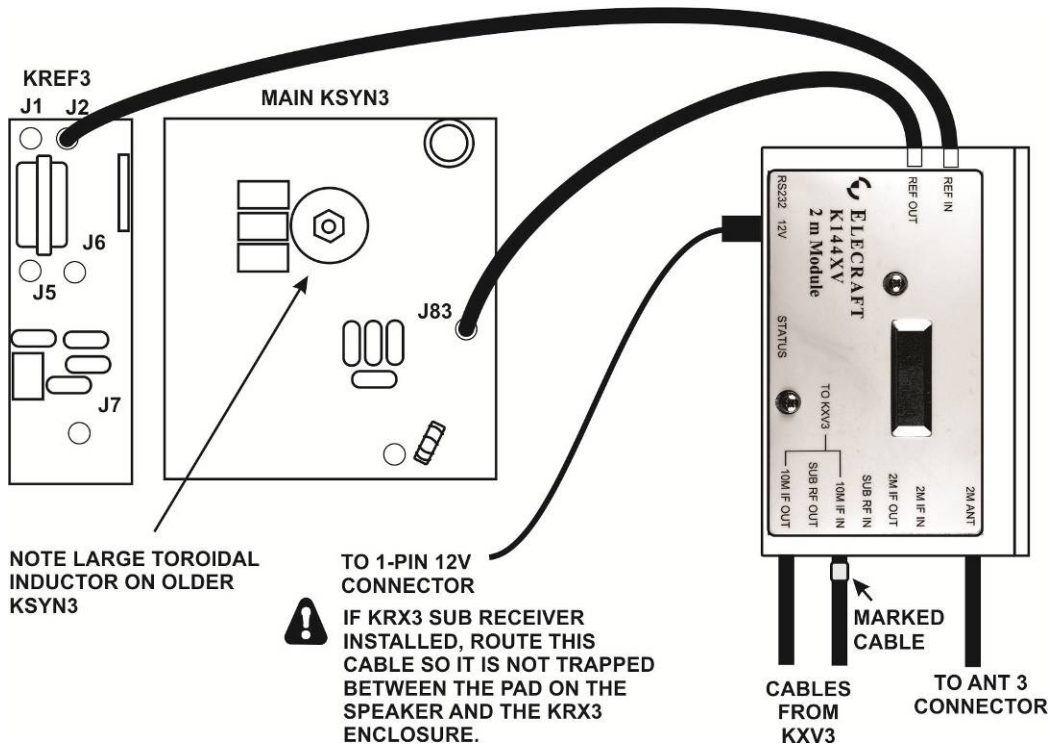

Figure 17. K144XV with K144XV Ref Lock and Original Synthesizers.
- If you have the optional K144XV Ref Lock installed and your K3 has the new KSYN3A synthesizers installed, see Figure 17.